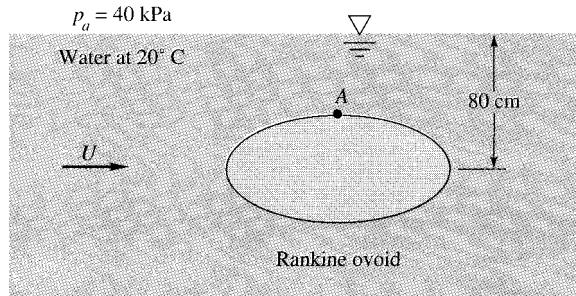

Fig. P8.97
**8.97** The Rankine body or revolution in Fig. P8.97 is 60 cm long and 30 cm in diameter. When it is immersed in the low-pressure water tunnel as shown, cavitation may appear at point A. Compute the stream velocity  $U$ , neglecting surface wave formation, for which cavitation occurs.